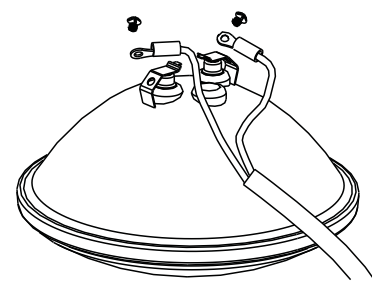

Figure 9
3) Remove the lamp and gasket from the inside of the base of the underwater light by disconnecting the two terminals, loosening the two screws which secure them to the lamp, see Figure 9.